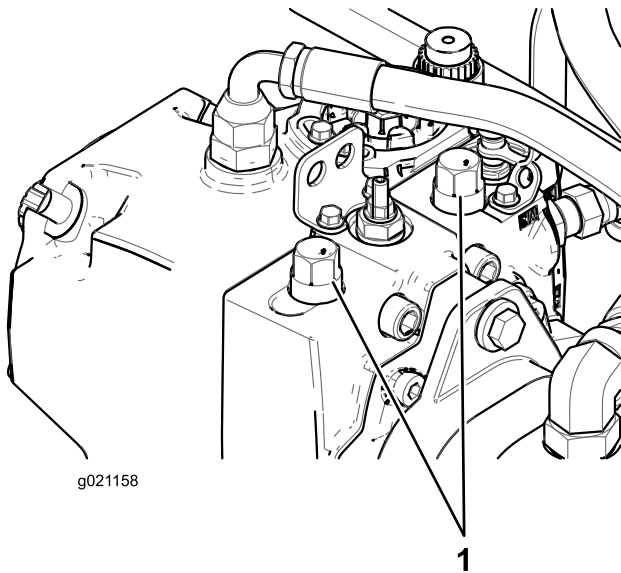

Figure 36
1. Raise the hood and locate the bypass valves on the pump (Figure 36).